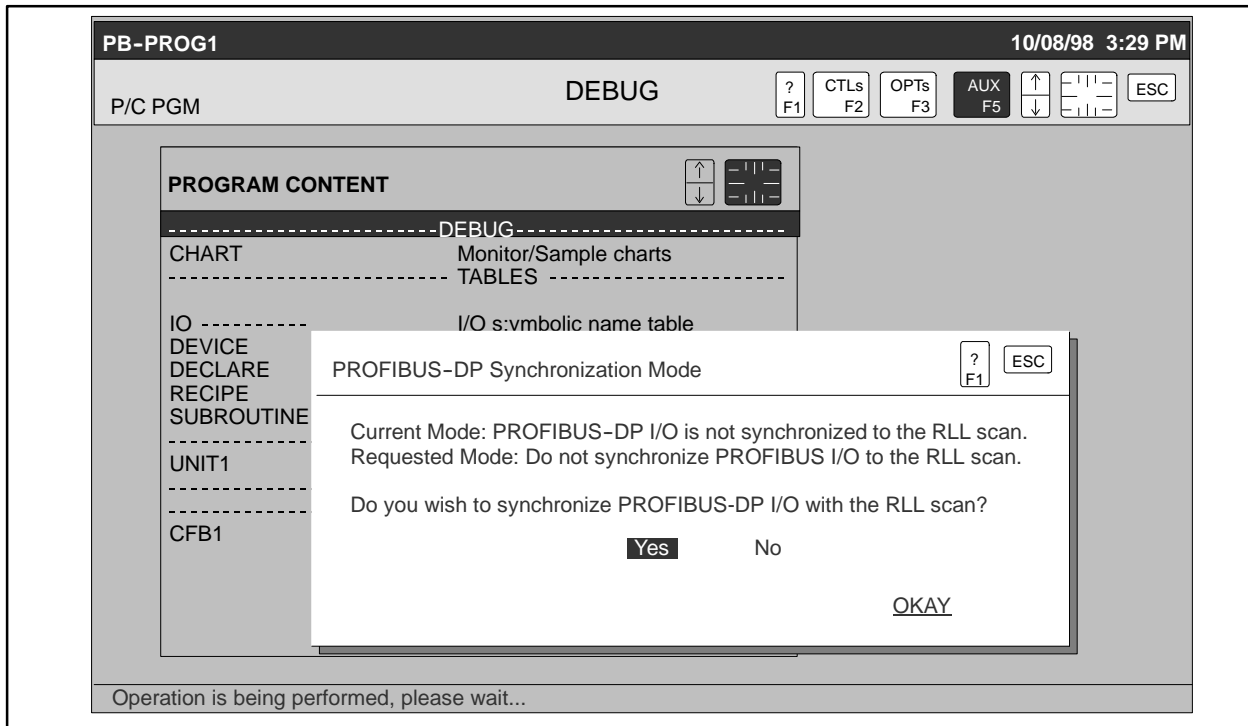

Figure 9-24 Synchronizing PROFIBUS-DP I/O with the RLL Scan
3. Press **Enter**. The PROFIBUS-DP Synchronization Mode screen appears (Figure 9-24).